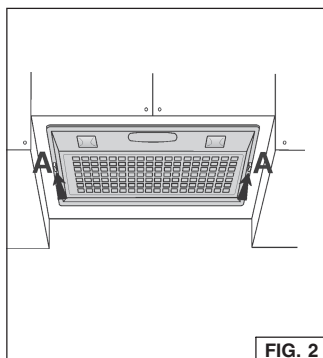

FIG. 2
1. Remove the grid by moving the 2 slide fasteners "A" forward (Fig.2).